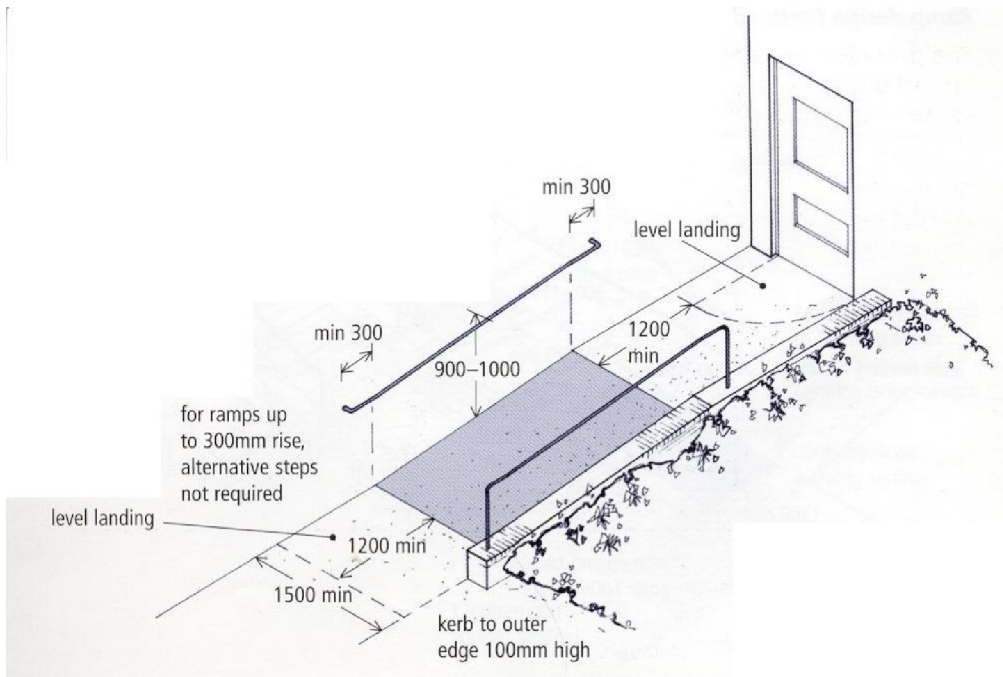

Figure 13
- Large and unobstructed level landings at the bottom and top of the ramp and at intermediate levels should be designed in accordance with Figures 13 & 14.
- Handrails, continuous to ramps and landings, should be provided to each side of the ramp and set at an appropriate height, extending beyond the top and bottom of the flight (Figures 13 & 14).